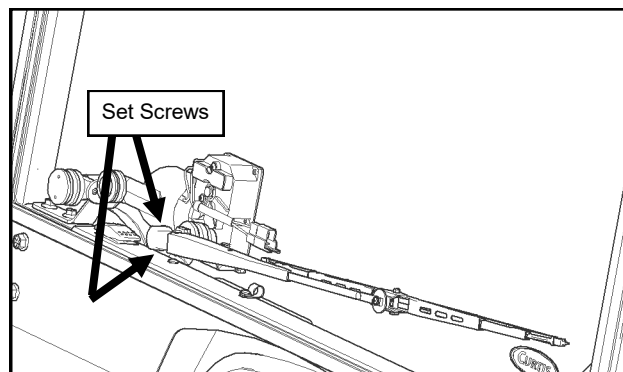

Fig. 22.3 (Wiper Arm and Blade)
- 22.3 Install the wiper arm onto the wiper motor so that the wiper is horizontal. See Figure 22.3. Tighten the Allen Screws.